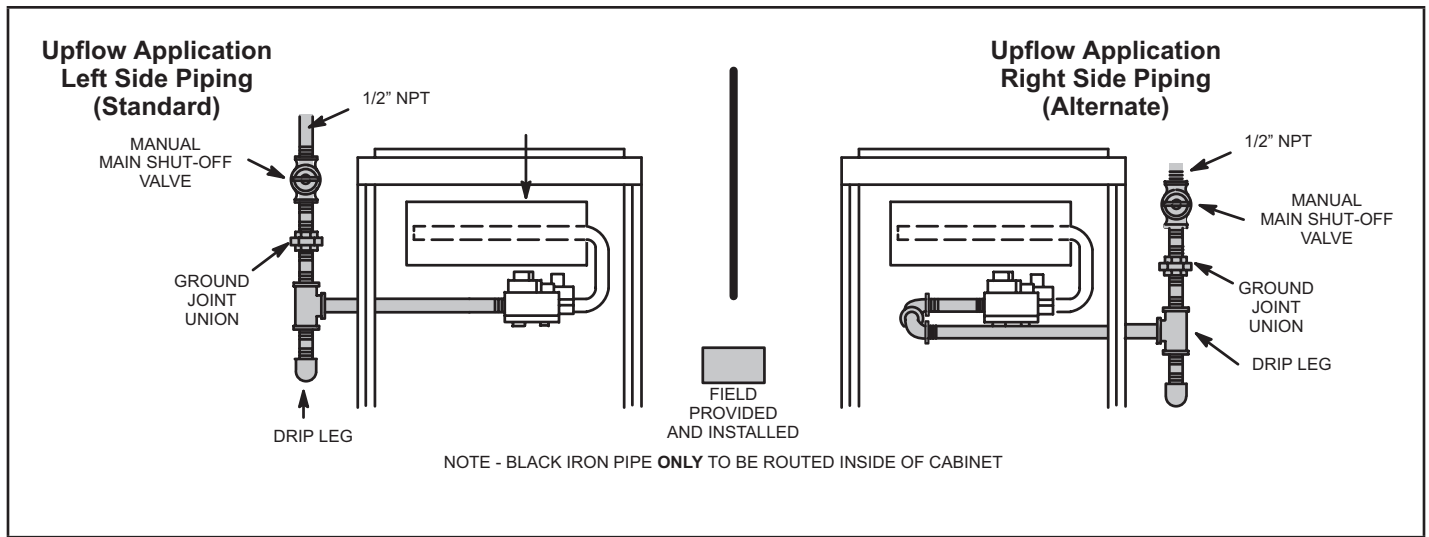
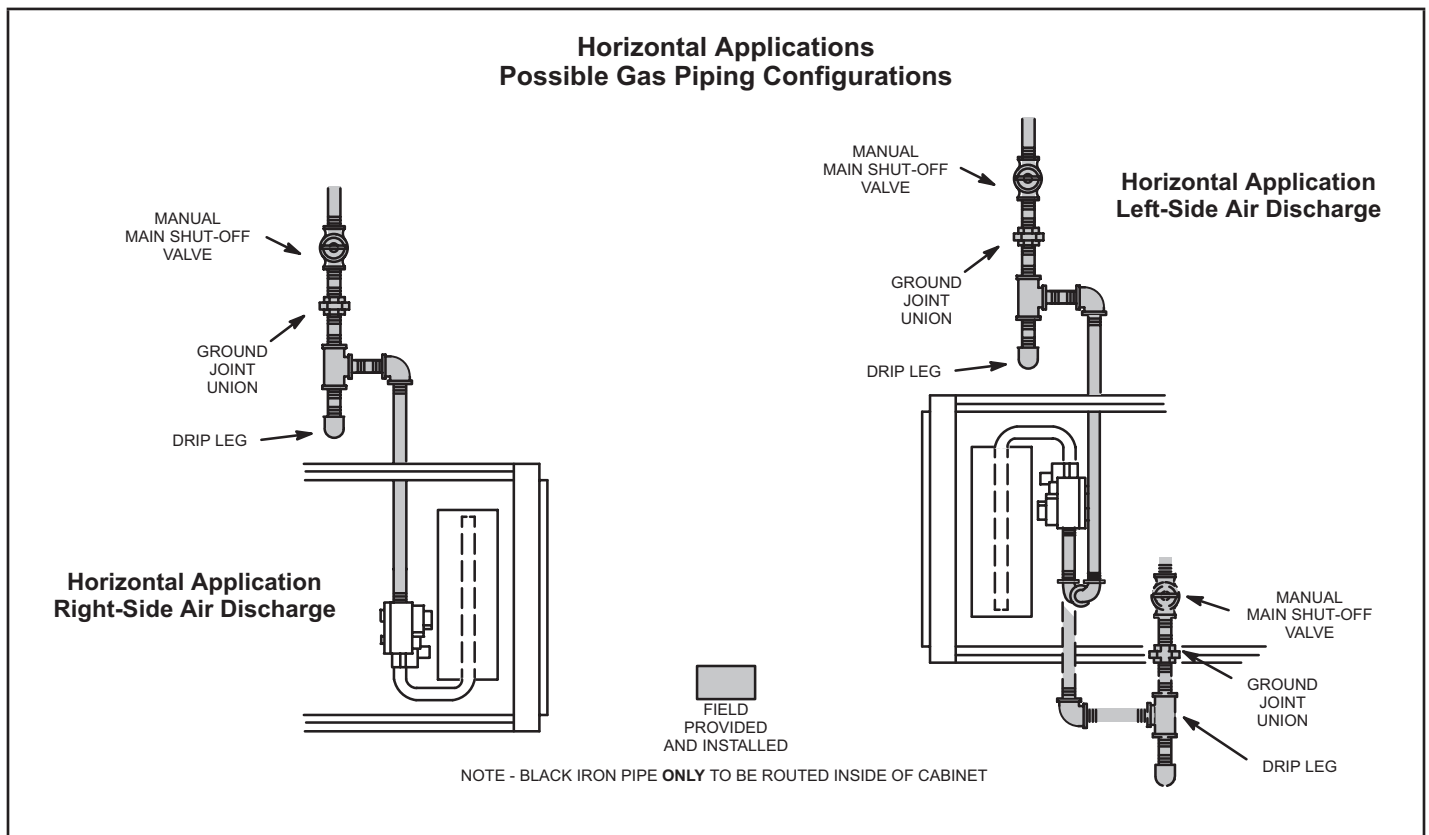

FIGURE 56
FIGURE 57
- 1 - Gas piping may be routed into the unit through either the left-or right-hand side. Supply piping enters into the gas valve from the side of the valve as shown in FIGURE 56. Connect the gas supply piping into the gas valve. The maximum torque is 800 in lbs and minimum torque is 350 in lbs when attaching the gas piping to the gas valve.
- 3 - Gas piping must not run in or through air ducts, clothes chutes, chimneys or gas vents, dumb waiters or elevator shafts. Center gas line through piping hole. Gas line should not touch side of unit. See FIGURE 56 and FIGURE 57.